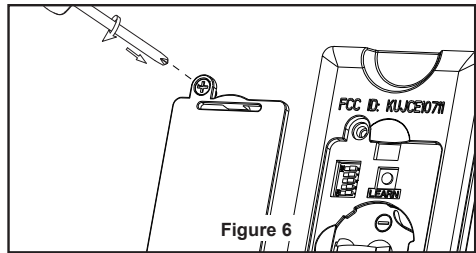

Figure 6
- ☐ 6. Secure the glass to light kit by twisting in a clockwise direction. Twist the glass gradually **until it snaps on to the light kit**. Do not over-tighten. (Figure 6)
- ☐ 6. Replace battery cover on the remote control and secure with the previously removed screw. (Figure 6)